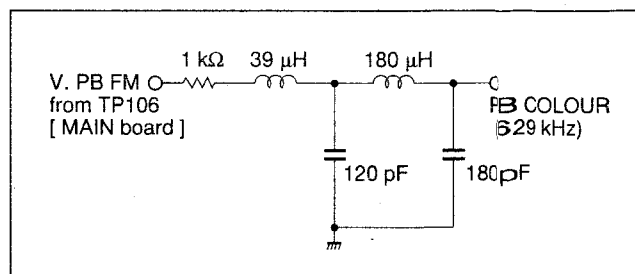
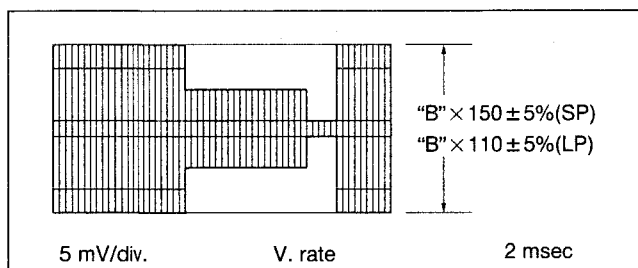

Fig. 3-3-4 LPF
Fig. 3-3-5 REC colour level
- (1) Connect an oscilloscope to PB COLOUR of a LPF (refer to Fig. 3-3-4) and TP111 (negative slope) on the MAIN board.
- (2) Playback the SP colour bar signal of the MH-2H alignment tape.
- (3) Adjust by pressing the CH "+" or "-" buttons of the Front panel for maximum level of the color waveform and make a note of the higher colour level "B".
- (4) Press the STOP/EJECT button and eject the MH-2H alignment tape.
- (5) Set the EVR mode by transmitting a data code "57" with the Jig RCU.
- (6) Set "A : 2" by pressing 2 button of the remote controller.
- (7) Before recording, adjust the CH "+" or "-" buttons of the remote controller so that the higher level channel becomes $150 \pm 5\%$: SP ($110 \pm 5\%$: LP) of the note "B" level during playback as shown in Fig. 3-3-5.
- (8) Record a colour bar signal in the SP (LP) mode, and playback the recorded colour bar signal.
- (9) Set the normal VCR mode by transmitting the data code "57" with the Jig RCU again so adjustment data is memorized.